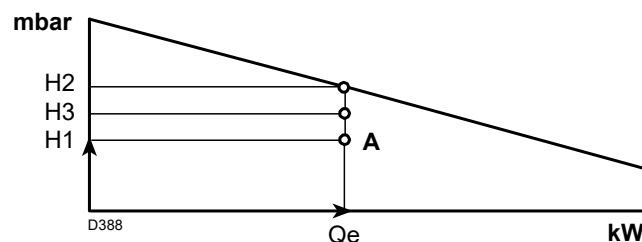

Fig. 3
- 4 Trace a vertical line from **point A** (Fig. 3), and find the maximum pressure "**H2**" of the firing rate.
- If "**H3**" is greater than "**H1**" (Fig. 3), the burner can supply the required output.